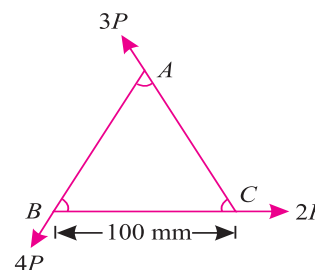

Fig. 3.11.
**Solution.** The system of given forces is shown in Fig. 3.11.